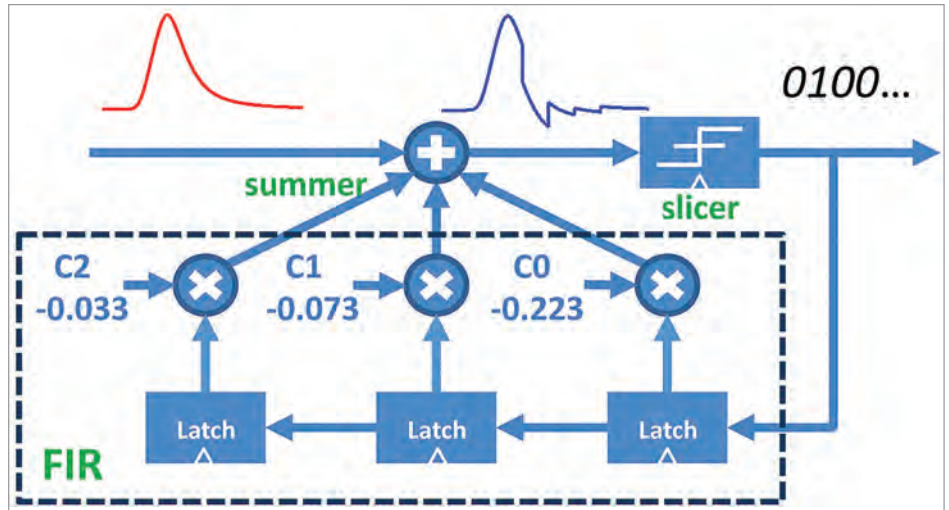

Figure 22. A three taps DFE example.
DFE is commonly used in a SERDES receiver (RX) to remove Inter Symbol Interference (ISI) caused by a lossy channel. A DFE includes a Finite Impulse Response (FIR) filter, a summer and a slicer for symbol decision. Figure 22 shows a three taps DFE example. The benefit of a DFE is that it can cancel the ISI without noise amplification. The downside is that it can't correct a precursor ISI.